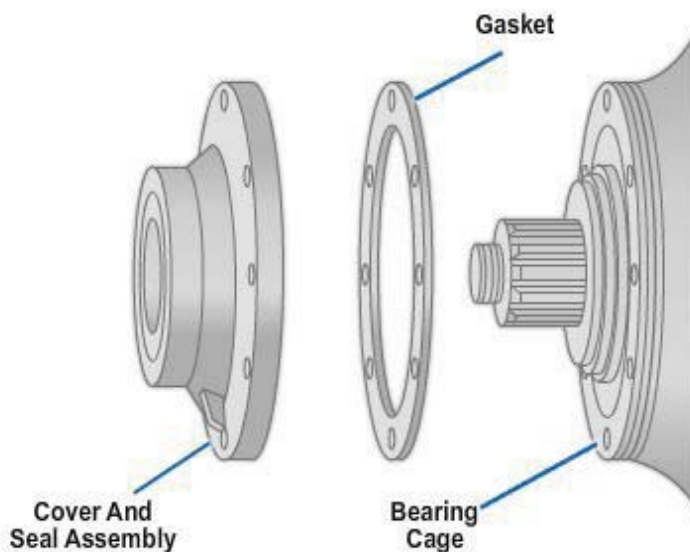

Figure 8-82 – Cover and seal assembly, gasket and bearing cage.
5. If used, install the cover and seal assembly and gasket over the bearing cage (*Figure 8-82*).